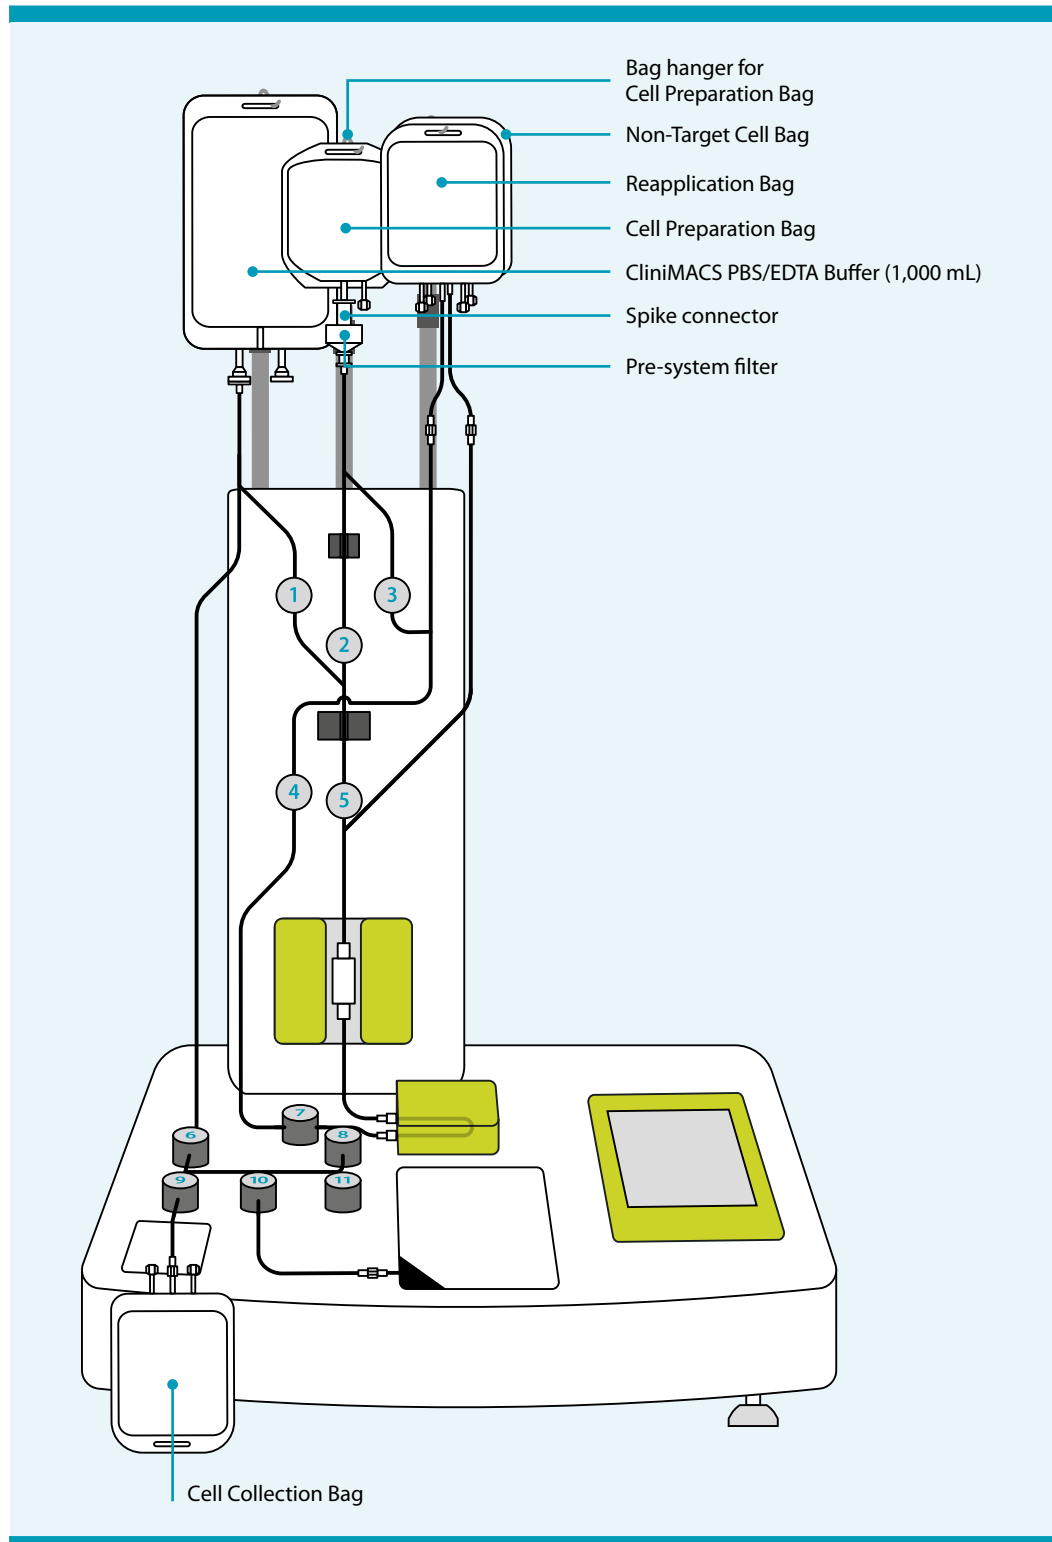

Figure 7.21: CliniMACS Plus Instrument with CliniMACS Depletion Tubing Set, CliniMACS PBS/EDTA Buffer (1,000 mL), Cell Preparation Bag, and Cell Collection Bag
6. Hang the Cell Preparation Bag on the bag hanger (see Figure 7.21).